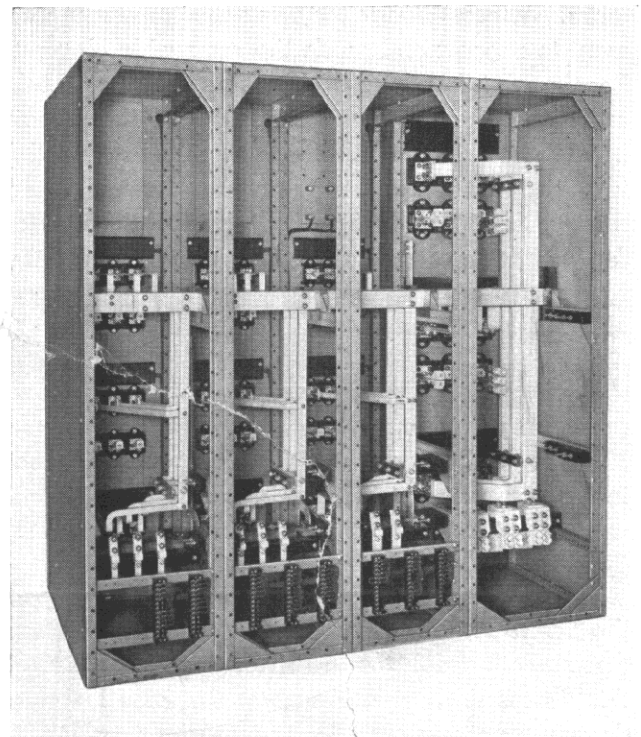

FIG. 3. View of Rear Bus Compartment
**Stationary Structure.** The stationary structure is an assembly of one or more steel housings, each consisting of a formed and welded front enclosure containing the circuit breaker compartments and a rear enclosure for the bus copper, cables, instrument transformers and other detail equipment. See Fig. 3. The front compartments are completely enclosed, segregating each circuit breaker from the other breakers.